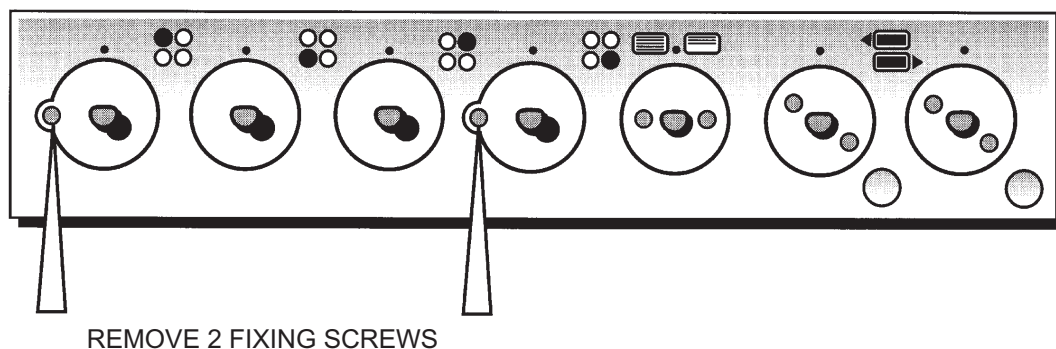

Fig. 8
- Remove two screws from control panel (one from left hand hole and one from centre hole). (See Fig. 8).
Remove two screws from control panel (one from left hand hole and one from centre hole (See Fig. 8).